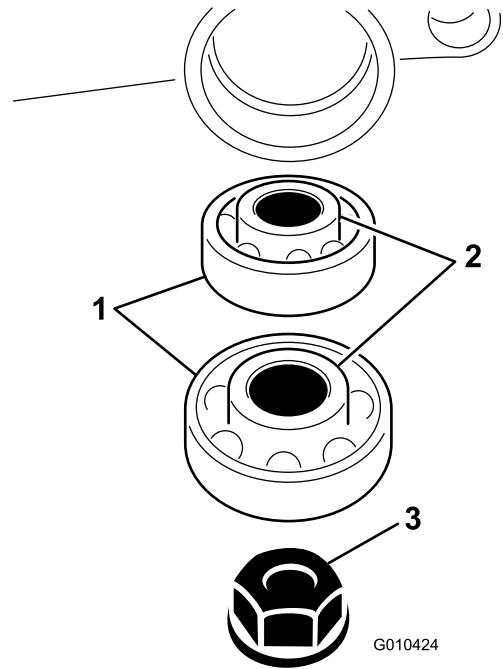

Figure 10
10. Insert the bearings onto the groomer shaft in the groomer housing (Figure 10).
11. Secure the groomer shaft to the groomer housing assembly with a nut (3/8 inch) as shown in Figure 10.